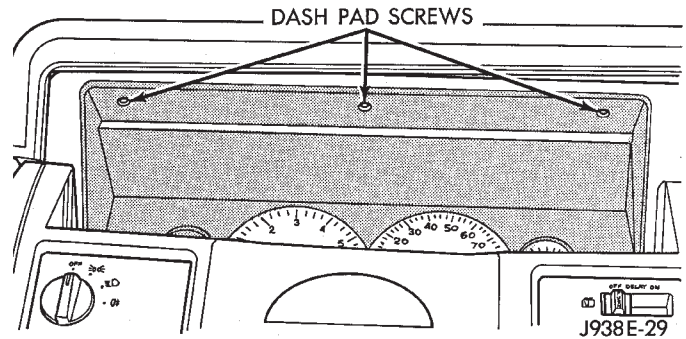

Fig. 7 Remove Screws Holding Dash Pad
- (9) Remove 3 screws above instrument panel cluster holding dash pad (Fig. 7).